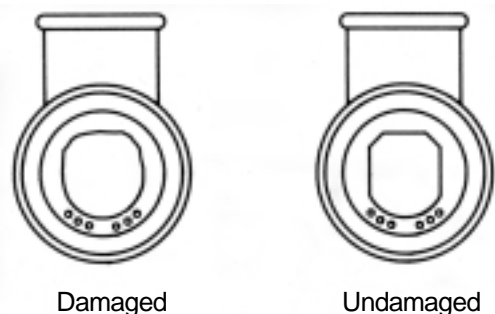

Fig. 9
- C. Remove the lever(12) and spring(13), which can now drop out freely. Discard them, and DO NOT attempt to reuse.
- C. The indexed valve retainer inside the inlet portion of the housing should be intact, and free of any signs of damage or distortion caused by improper removal of the LP hose. (Fig. 9)
15. Remove the exhaust cover(18) by turning it in a counterclockwise direction, avoiding the use of tools. Inspect the threads of the cover and the housing to ensure they are in good condition, without any signs of distortion. Squeeze the tabs found on the underside of the purge button(16) inward, and simultaneously press the others, causing the purge button to exit the exhaust cover. Inspect the purge spring(17) for any signs of corrosion that might impair its performance.